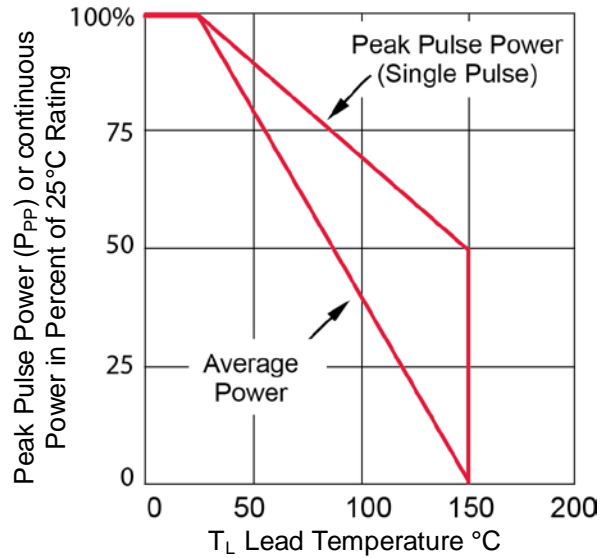

**FIGURE 1**
2. With impulse repetition rate (duty factor) of 0.01 % or less (also Figure 1 and 4).